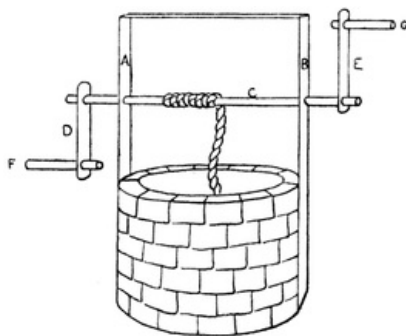
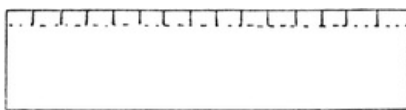

FIG. 53
FIG. 54
**A Well and Bucket.** The well is made from an oblong about 2½ inches by 10 inches. Fold down one side of the oblong, about ½ inch; make cuts along this fold as in Fig. 54. When the paper is bent round to form the well, these cut pieces form the edge of the well (Fig. 53). A B is a piece of cardboard or stiff paper bent, as shown in the diagram, and gummed to the sides of the well. Two holes must first be made in A and B. Then through these holes a piece of cane C is passed. D and E are pieces of cardboard of equal size;